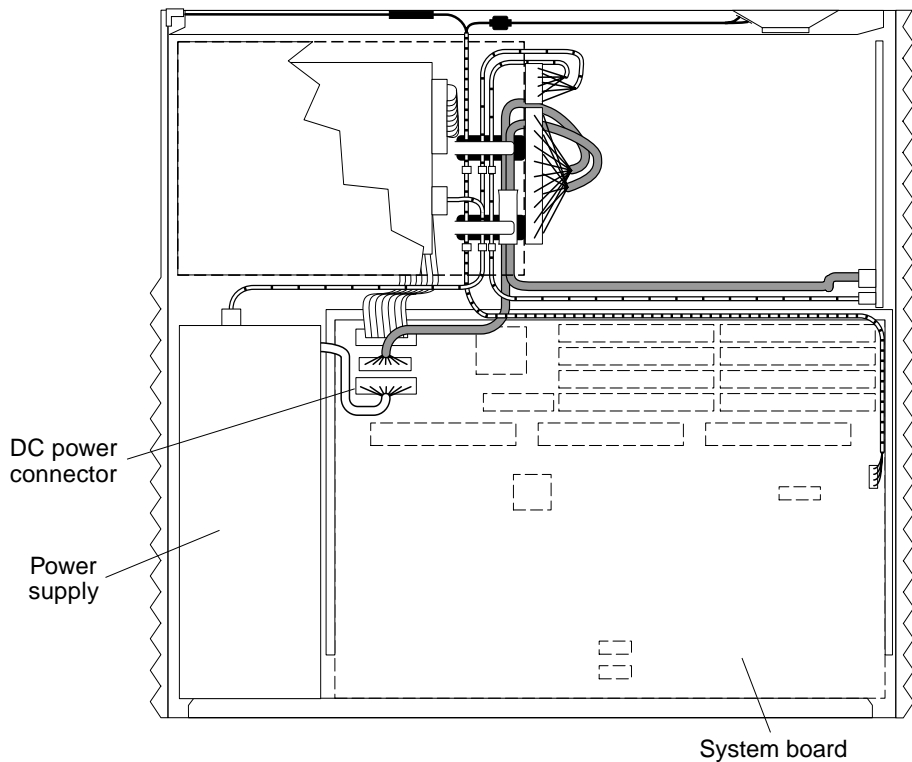

FIGURE 8-4 Connecting the DC Power Connector to the System Board
- 5. Connect the DC power connector to the system board (FIGURE 8-4).**